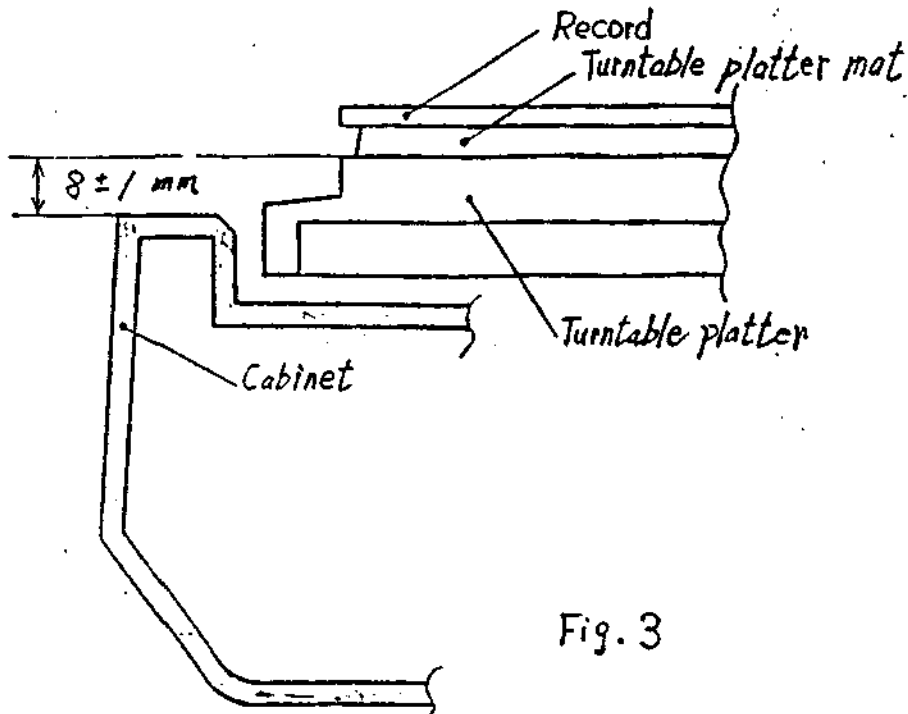

Fig. 3
- (3) The level of turntable platter against cabinet should be within 1 mm.
- (4) The height of turntable platter should be within 7 - 9 mm as specified in fig. 3.